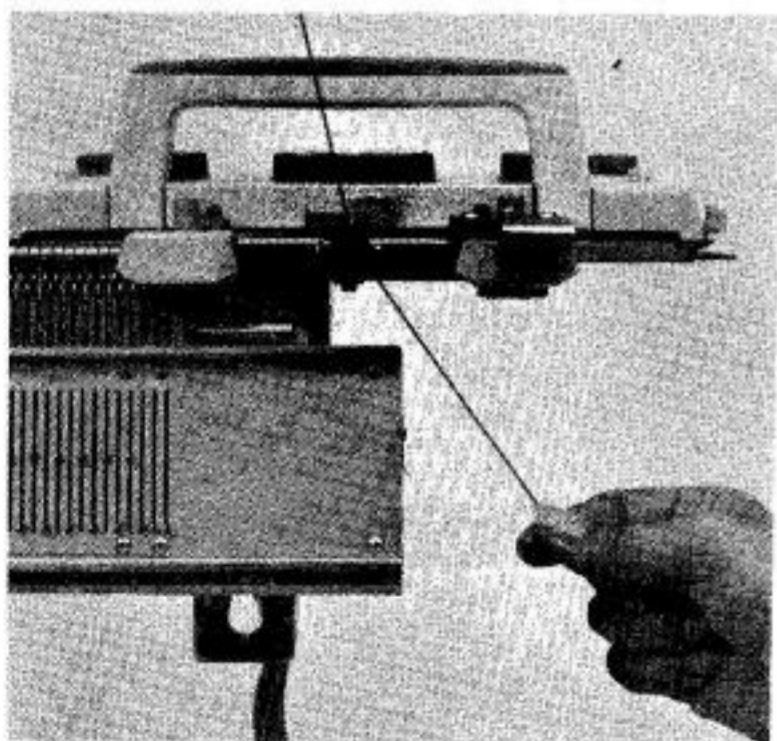
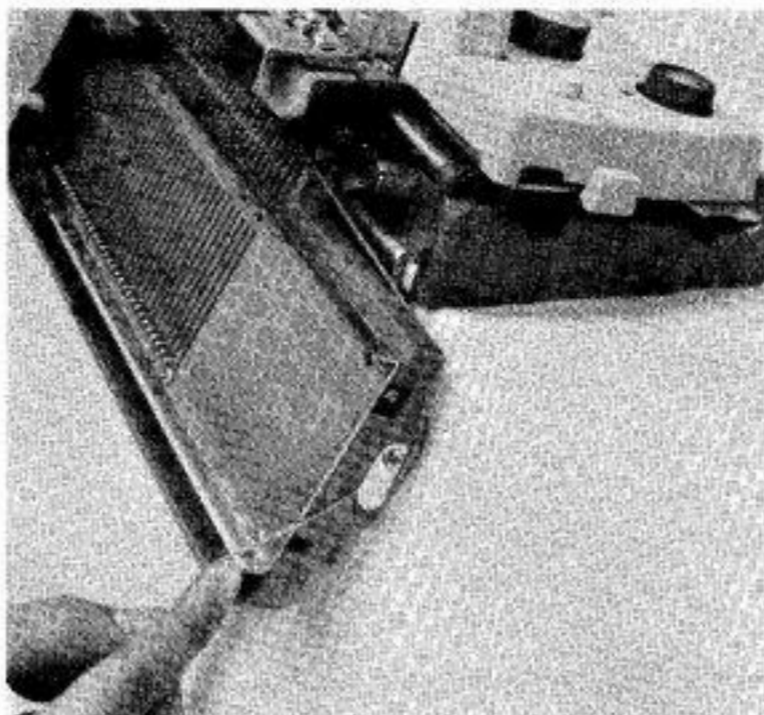

Fig. 33
Fig. 34
4. After threading the yarn through the overhead feeder unit, thread it through the machine feeder as shown in Fig. 33 and fasten the loose end around the peg on the right hand end of the ribber needle bed. (Fig. 34)
1. After threading the yarn through the overhead feeder unit, thread it through the machine feeder and fasten the loose end around the peg on the right hand end of the ribber needle bed—see Figs. 33 & 34. Commence with both carriages on the **right**.